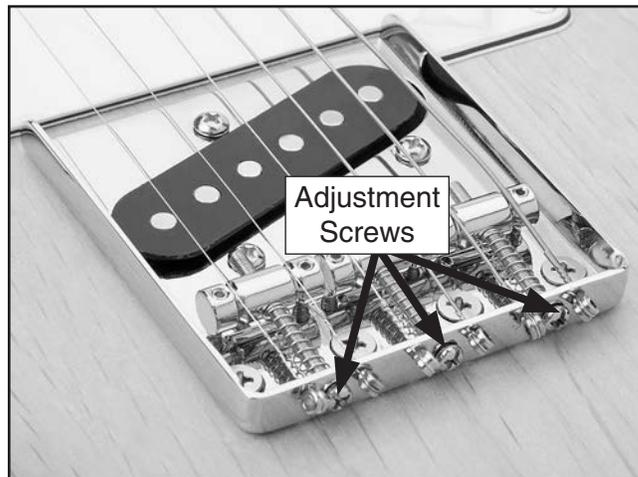

Figure 36. Saddle adjustment screws.
2. Now pluck the string while holding it fretted at the twelfth fret. If this note is sharper than the note played in **Step 1**, move the saddle away from the neck by turning the saddle adjustment screw (see **Figure 36**) clockwise. If this note is flat in comparison, move the saddle toward the neck.